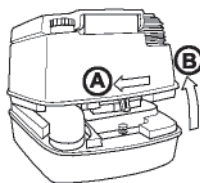

Figure J10: Removing Fresh Water Tank
3. Remove fresh water tank from waste holding tank (Figure J10).